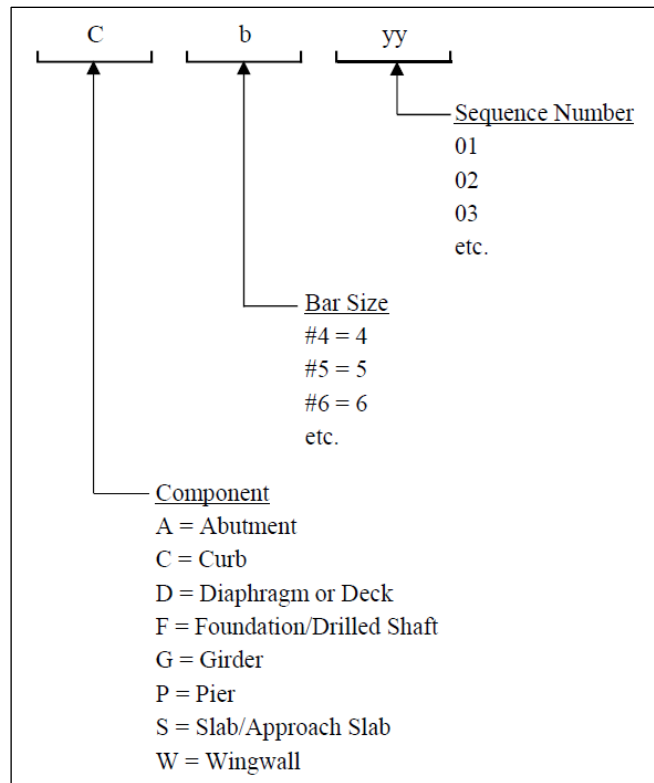

Figure 5-1
- Use the reinforcing steel identification convention shown in Figure 5-1. Start the numerical sequence at “01” with no gaps in the numerical order. For example, the first #4 reinforcing bar for an abutment would be labeled “A401”.